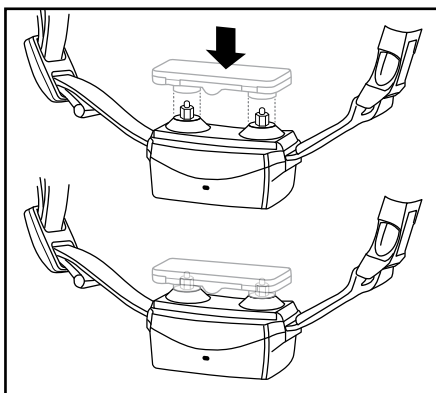

figure 13
- Place the Test Light indentation holes directly onto the Receiver Collar stainless steel probes. (fig. 13)